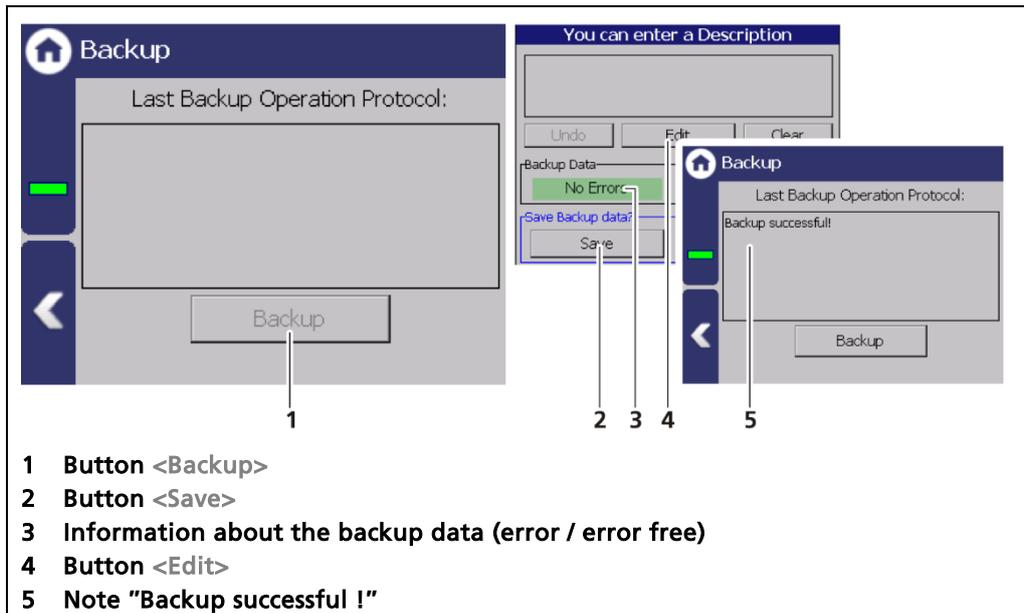

Fig. 109 Backup
2. The USB storage device is recognised by the system after a few seconds and the button <Backup> (Fig. 109, item 1) can be clicked.
3. Click on the button <Backup> (Fig. 109, item 1).
- ▶ The message "Error free" (Fig. 109, item 3) appears in the field "Backup data" for present and error-free backup files.
- 5. Click on the button <Save> (Fig. 109, item 4).
- ▶ The message "Backup successful!" appears after a successful copy process (Fig. 109, item 5).